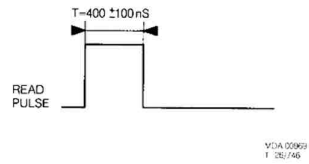

Fig. 1
- Adjust the pulse width on 29-U8 for 400 ± 100 ns with the aid of VR1, see figure 1.